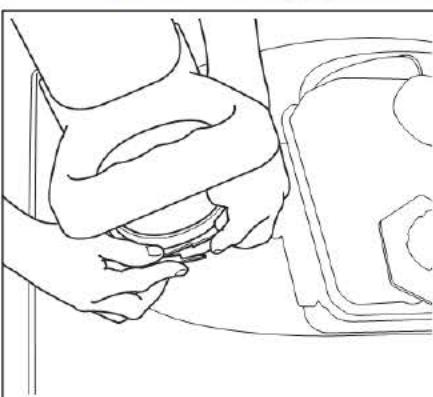

Figure 8
5. Fasten the locking collar and snap into plate. See figure 8.